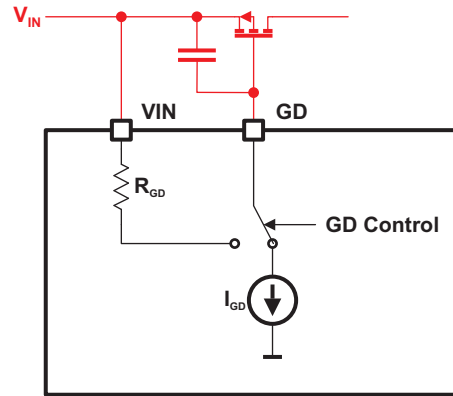

Figure 35. Gate Drive Internal Block Diagram
The gate driver (GD) pin can be used to control an external isolation switch. The TPS65149 supports PMOS devices positioned between  $V_{IN}$  and the boost converter's inductor (see Figure 35). The GD pin is pulled low by a 10  $\mu A$  current source when  $V_{IN} > V_{UVLO}$  and  $EN=high$  and features an internal pull-up resistor to turn off the isolation switch when  $V_{IN}$  is removed or  $EN$  is low.